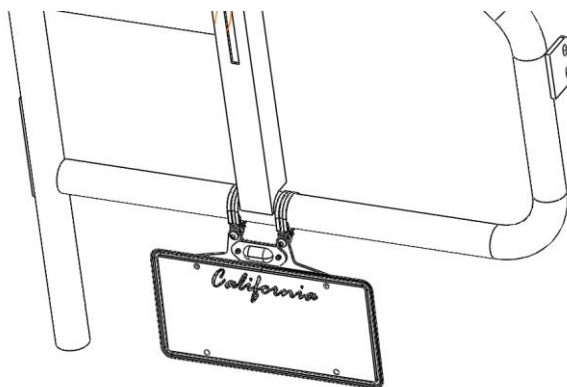

Figure 23: Installed License Plate
37. Verify that position is correct (Figure 23). Proceed to tighten nuts.